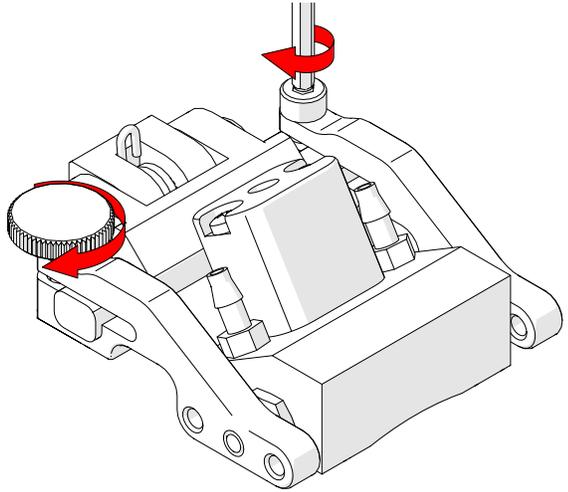

Fig. 43 - Remove probe holder arms
4. Tighten the probe holder arm adjustment knob and the arm clamp screw (Fig. 43).